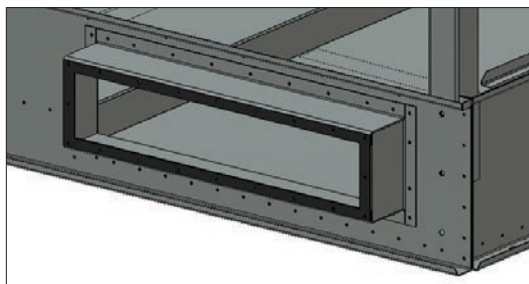

Figure 8. Flume Box Butyl Sealer Tape Application
2. Wipe down the mating surface on the outer, protruding end of the flume box and apply a layer of 1/8" x 1" butyl sealer tape (BAC Part #554000) around the face of the flange over the centerline of the holes. Do not overlap or stretch the butyl sealer tape too thinly at the corners. When it is necessary to splice the butyl sealer tape, be sure to press the two ends together to form a smooth, continuous strip. See **Figure 8**.